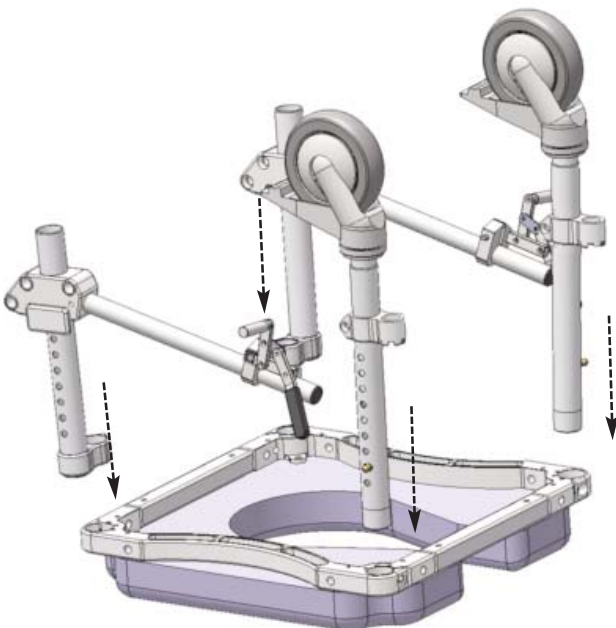

Figure 2
**D** The top end of each leg should fit easily into the socket of the frame. Make sure that the legs slide "home" into the sockets. Use the included ¼" Allen wrench to tighten the bolts located at the corners of the frame. For ease of future leg height adjustment, position each leg in the socket so that the adjustment holes face outward (Refer to Figure 2).
- 2) Remove the four legs from the seat frame: Reverse the process shown on Page 1 [Assembly Instructions] Step C (Refer to Figure 2).